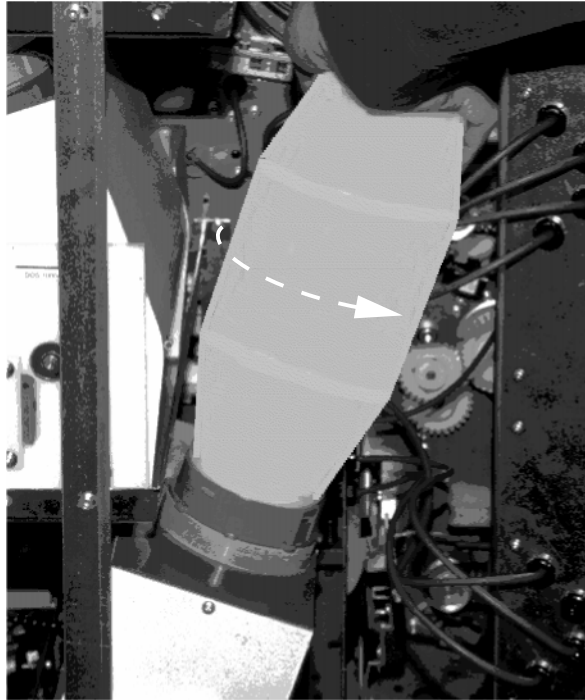

Figure 283. Removing an Empty Toner Bottle
12. When the bottle is completely empty, twist it counter-clockwise, as shown in Figure 283 on page 307.